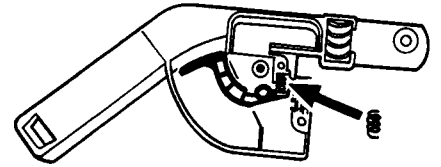

FIG 32
2. Fit switch inter-lock and compression spring (Fig 32).